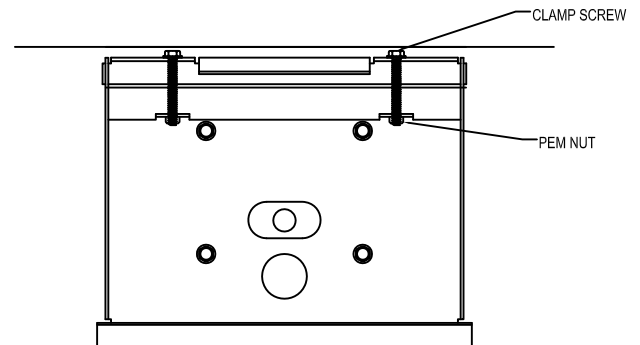

FIGURE. 1A
2. LOOSEN 2 CLAMP SCREWS ON BACK OF LUMINAIRE, SO THAT NO SCREW THREADS ARE SHOWING PAST PEM NUTS. SEE FIGURE 1A. SET MOUNTING PLATE AND GASKET ASIDE. NOTE: DO NOT REMOVE SCREWS OR CLAMP!